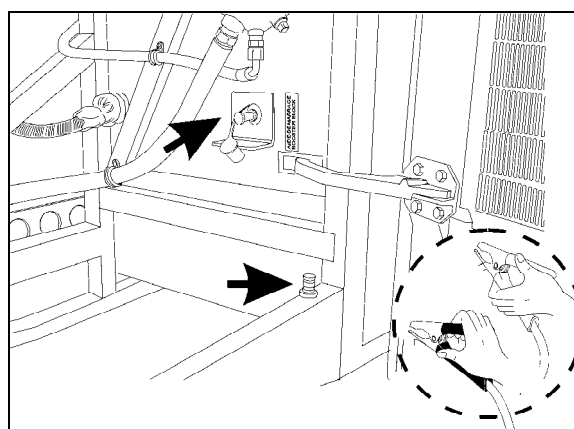

FIGURE 15: BOOSTER BLOCK
1. Connect one end of one red jumper cable to the positive (+) terminal of the booster power source and the other end to the positive (+) post of the booster power block, located on the R.H. side of the engine compartment (FIGURE 15).